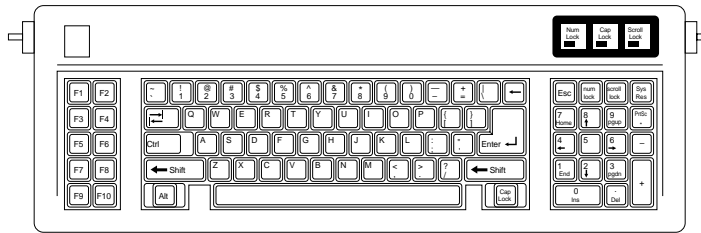

FIG. 9.2 AT 84-key keyboard layout.
**84-Key AT Keyboard.** When the AT was introduced in 1984, it included a new keyboard—the 84-key unit (see Figure 9.2). This keyboard corrected many problems of the original PC and XT keyboards. The position and arrangement of the numeric keypad was modified. The Enter key was made much larger, like that of a Selectric typewriter. The Shift key positions and sizes were corrected. IBM also finally added LED indicators for the status of the Caps Lock, Scroll Lock, and Num Lock toggles.